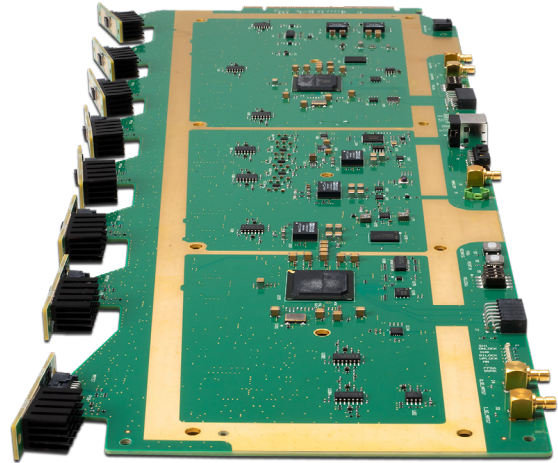

Figure 5b. A circuit board that contains 8 RF front ends
- eight RF front ends integrated on one circuit board (Figure 5b)